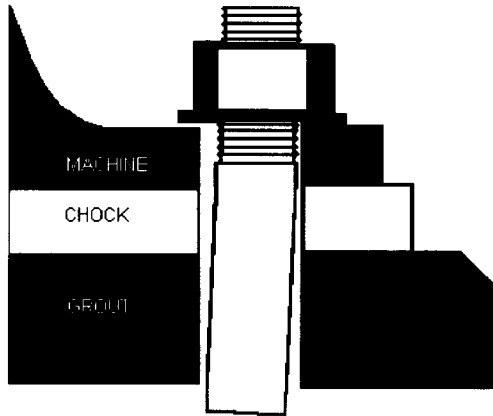

Figure 2-2. Bolt alignment is critical for proper tensioning.
- Perpendicularity of the anchor bolt to the surface being clamped. (See Figure 2-2. The force from the nut should bear equally on the machine frame for 360°.)